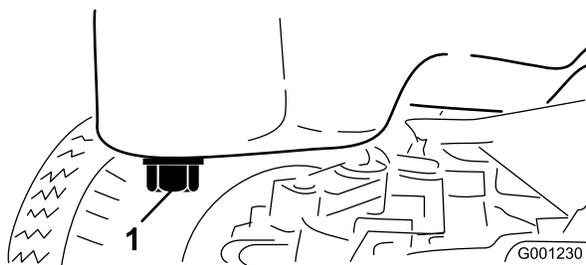

Figure 48
3. Set a drain pan under the oil pan and in line with the drain plug (Figure 48).